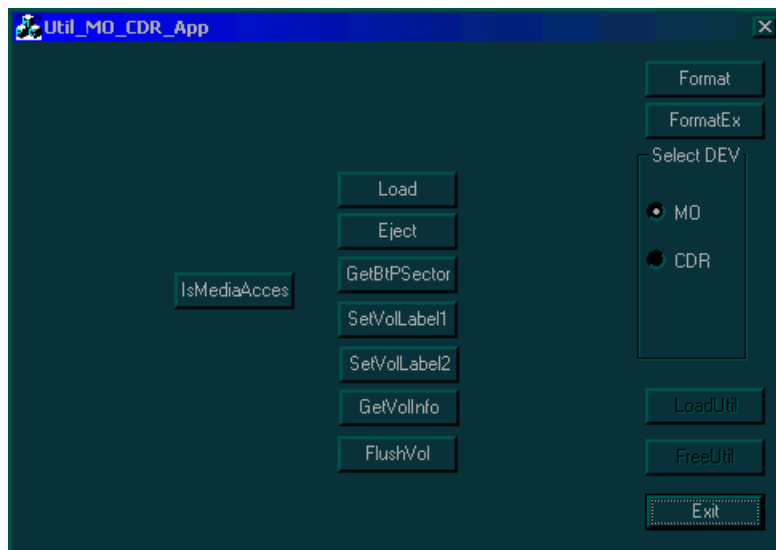

Figure 7-53 Util\_MO\_CDR\_App Dialog Box
- 3) Trackball to the **Media Driver** button and press **Select**. The *Util\_MO\_CDR\_App* dialog box is displayed, as shown in Figure 7-53 "Util\\_MO\\_CDR\\_App Dialog Box" on page 7-80.